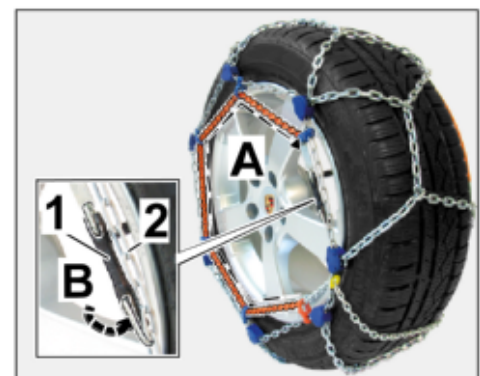

Figure 13
2.3.1 Guide tensioning chain after the locking plate to the orange plastic eyelet first (⇒ *Figure 13*).
2.3.3 Feed the rest of the tensioning chain in a circle (⇒ *Figure 13 -A-*) over the complete wheel through the remaining plastic eyelets.
2.3.5 Engage hook of the bungee cord slightly tensioned into a chain link on the outer chain (⇒ *Figure 13 -B-* or ⇒ *Figure 14 -B-*).